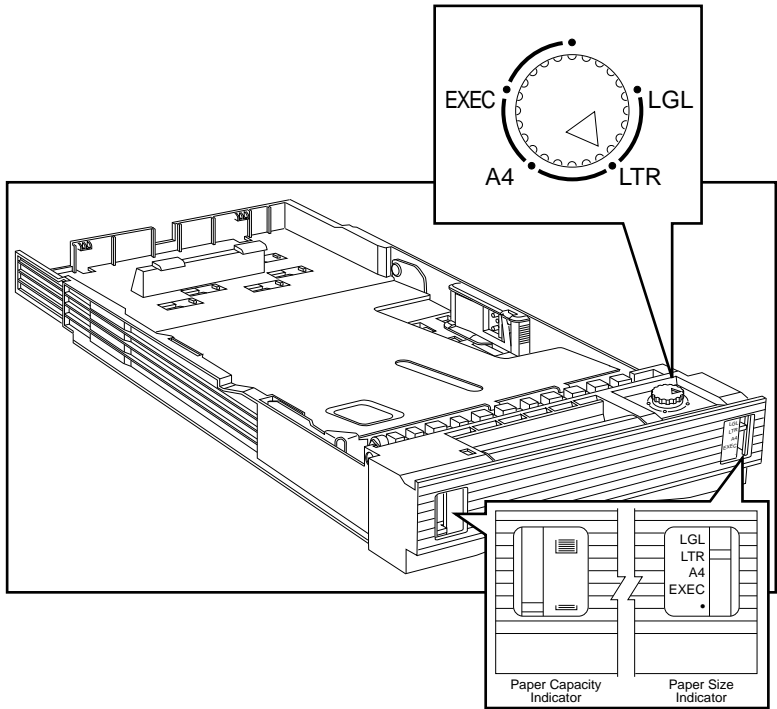

Fig. 9.3 Set the Paper Size Dial and Check the Paper Size Indicator
4. Set the paper size dial to the size of the media loaded in the cassette (fig. 9.3). Then make sure the paper size indicator on the end of the cassette matches the setting.
Note: The paper capacity indicator shows how much media is loaded in the cassette (fig. 9.3).